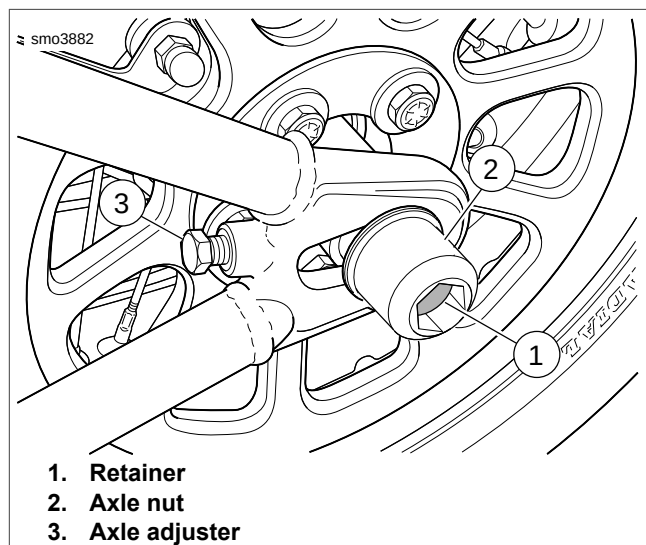

Figure 2-9. Axle Adjusters: FXSB
9. **FXSB:** See Figure 2-9. Loosen rear axle nut (2).
10. Loosen both axle adjuster screws (3) an equal number of turns to remove tension from drive belt.